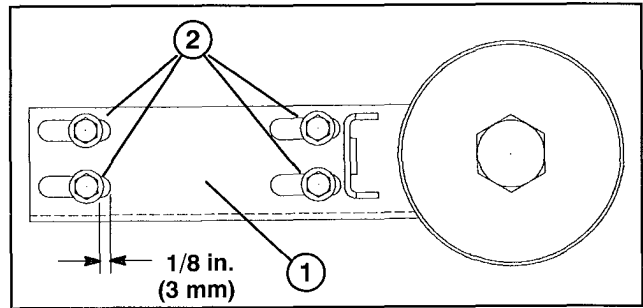
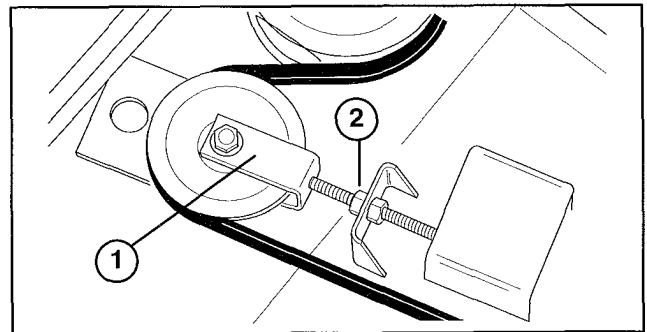

Figure 64
Figure 65
3. Note position of shoulder bolts in slots in tension plate. Optimum belt tension will be maintained when the flanges on the shoulder bolts are 1/8 in. (3 mm) from the pulley ends of the slots (Fig. 64). If the shoulder bolt flanges are more than 3/8 in. (9 mm) from the pulley end of the slots, an adjustment should be made.
4. To adjust, loosen jam nuts (Fig. 65) and extend tension arm until the shoulder bolt flanges are within 1/8 in. (3 mm) of the pulley end of the slots (Fig. 64).
2. Loosen jam nuts securing tension plate until compression spring on idler assembly is relaxed (Fig. 65).
2. Remove deck covers and relieve belt tension on all belts (Fig. 65).